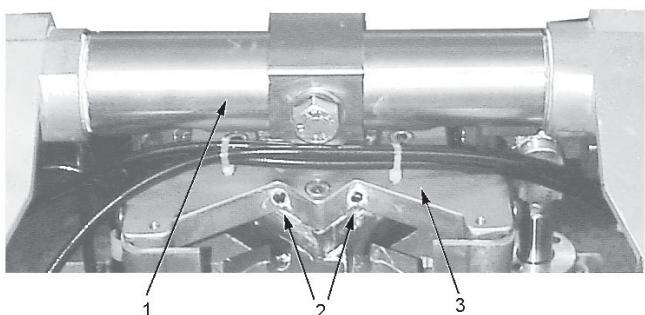
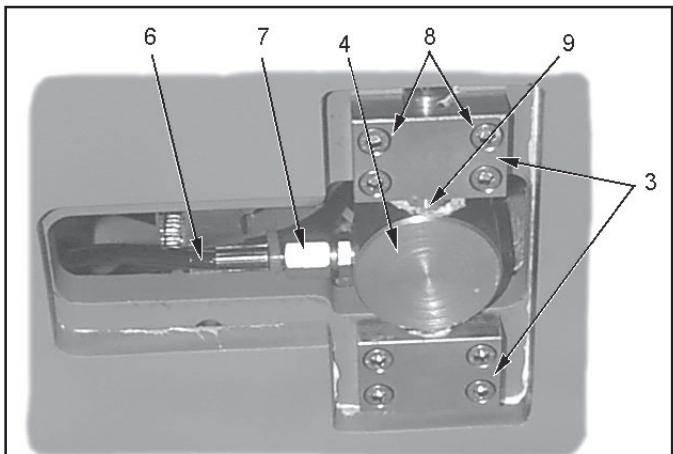

Fig. 21 Top of column detail
Fig. 22 Bottom of height cylinder detail
- iv Remove the eight screws (item 8, Fig.22) and washers and remove the two clamp blocks (item 3, Fig. 22) which attach the pivot pin (item 9, Fig. 22) for the height cylinder to the base of the table.
- v Disconnect the bottom hydraulic hose (Fig. 22, item 6) withdraw the height cylinder from the table column and then reconnect the hose. Power cylinder to minimum height to return most of the hydraulic oil to the reservoir. Disconnect both hydraulic hoses and blank off the hydraulic connections and cylinder.
6.41 To install the height cylinder proceed as follows referring as required to Fig. 21 and 22 :
- iv Secure the rod end of the height cylinder to the hinge plate with four set screws (item 2, Fig.21). It is important that the socket set screws are below flush of hinge plate when fully tightened. **Note:** Apply Loctite 222 (Part No.670650) to the threads of the screws prior to installation.
- iii Locate and remove the four screws (item 2, Fig. 21) in the hinge plate (item 3, Fig. 21) which secure the rod end of the height cylinder (item 4, Fig. 22).